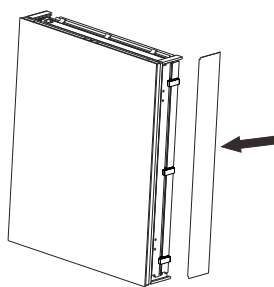

Fig.5
- 2.3 Insert the surrounding aluminum plate into the cabinet bracket(Fig.5).